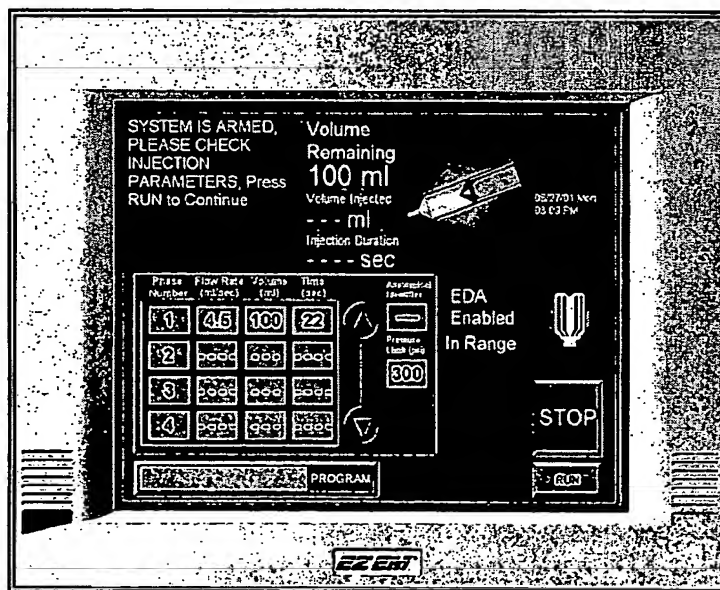

Figure 2.20 Arm
4. Press on the volume field that is to be programmed. A Volume Range data input pop-up window will appear, similar to the Flow Rate Range window as shown in Figure 2.20.